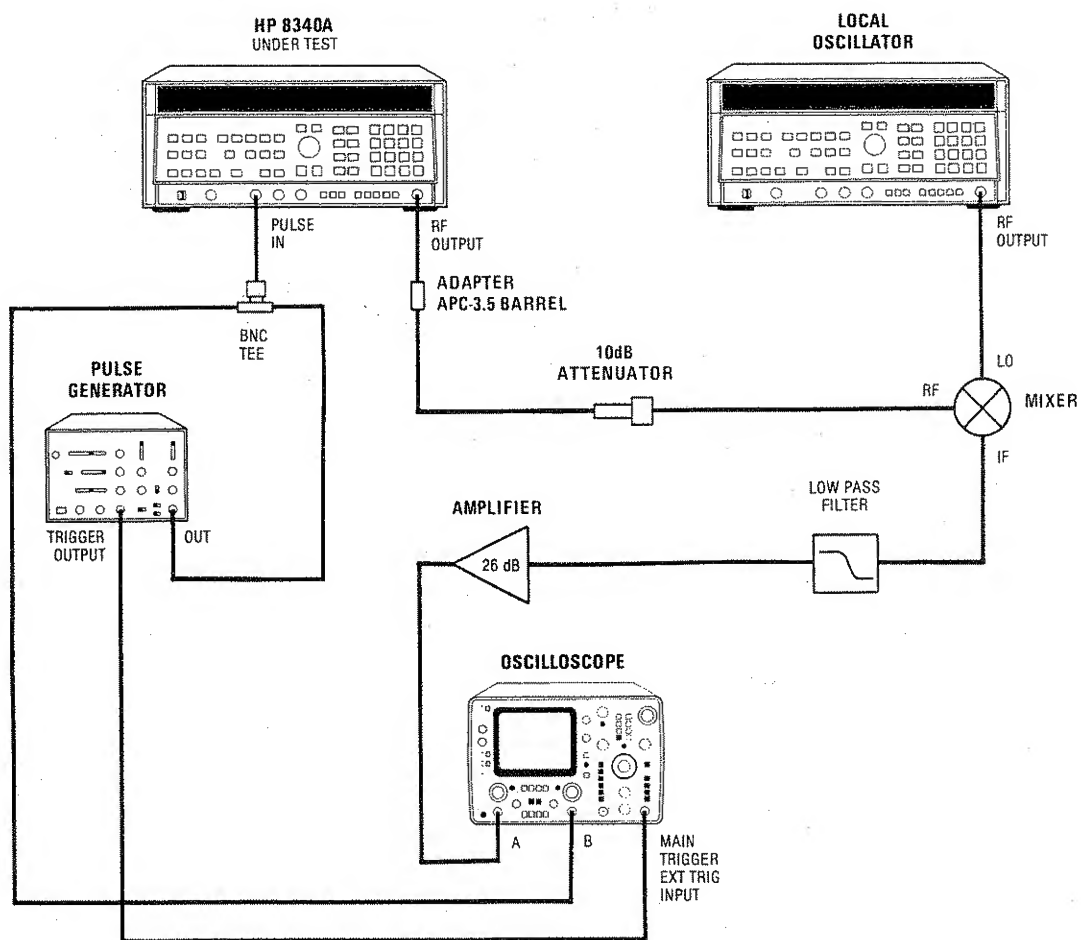

Figure 4-16. Pulse Modulation Accuracy Test Setup
1. Connect equipment as shown in Figure 4-16. Connect the mixer directly to the LO 8340A RF output connector to obtain the maximum mixer LO input level. Connect the BNC tee directly to the 8340A PULSE IN connector. Allow at least 30 minutes warm up time.